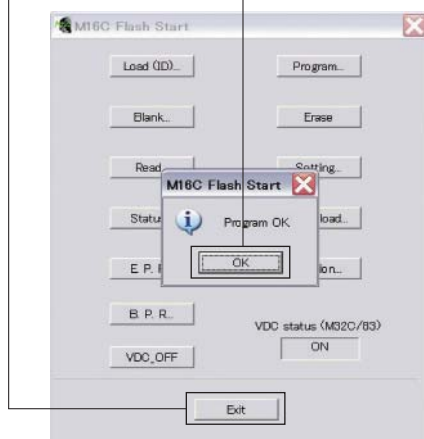

Fig. 7
9. When writing of the firmware is completed, the screen appears as shown below. (Fig. 7)
画面が表示されます。(Fig. 7)
Click [OK]. (Fig. 7)
[OK] をクリックします。(Fig. 7)
10. Click [Exit] to end FlashSta.exe. (Fig. 7)
(Fig. 7)